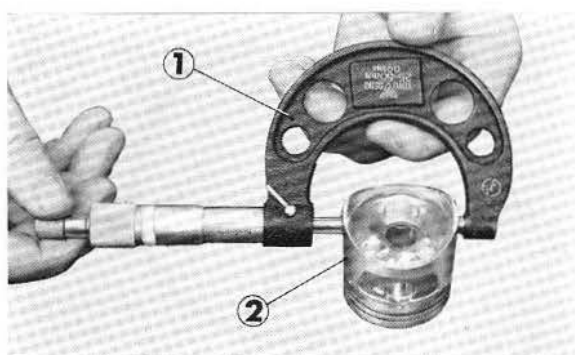

Fig. 2-28 ① Micrometer ② Piston
3. Check piston diameter (Fig. 2-28)